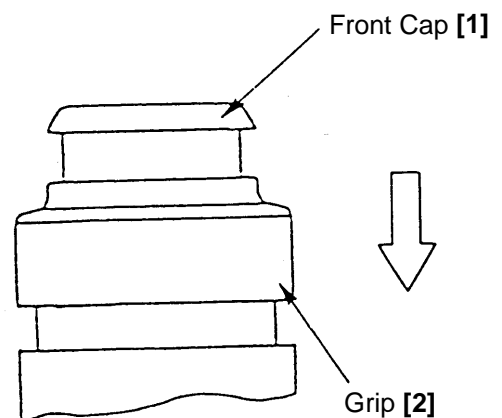

Fig. 10
(1) Disassembly of the Striking Mechanism Section
- * Remove Spring (B) **[34]** from the end of the Second Shaft **[35]**, and turn the Second Shaft **[35]** so that the Piston **[30]** moves to its maximum upper position (inner cover side). The arm of the Reciprocating Bearing **[40]** can then be disconnected from the Piston Pin **[31]**, and the Second Shaft **[35]** and the components mounted on it can be removed from the Inner Cover **[33]** as a unit.
- * Move the Clutch **[38]** to the pinion side of the Second Shaft **[35]**, and pull off the O-Ring S-8 **[39]**. The Clutch Spring **[37]** and Washer (B) **[36]** can then be removed from the Second Shaft **[35]**.
(2) Disassembly of the Chuck Section
As shown in Fig. 10, slide the Grip **[2]** in the direction indicated by the arrow mark, and remove the Front Cap **[1]**. The Grip **[2]**, Ball Holder **[3]** inside the Grip **[2]**, Holder Spring **[4]**, Washer (B) **[5]** and Steel Ball **[18]** can then be removed from the Cylinder **[20]**.